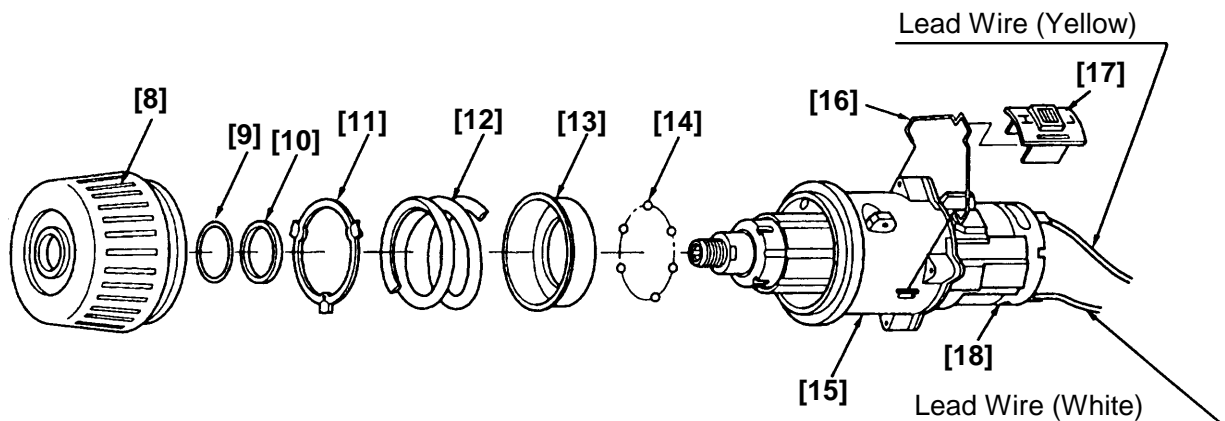

Fig. 11
(a) In order, remove the Cap **[8]**, O-Ring **[9]**, O-ring Plate **[10]**, Clutch Plate **[11]**, Spring **[12]**, Spring Holder **[13]** and Steel Balls **[14]**. Exercise care not to lose the six Steel Balls **[14]**. (See Fig.11.)
- (a) Mount the Shift Arm [16] and Shift Knob [17] on to the assembled parts. (See Fig.11.)
- (b) Fit the O-Ring [9] and O-Ring Plate [10] into the parts ass'y and install the Cap [8] through the six Steel Balls [14]. (See Fig.11.)
When installing the Cap [8], make sure that the numeral "1" on the Cap [8] and one of the projections at Clutch Plate [11] are generally aligned with the yellow internal wire soldered to the Motor [18]. Then fit the projection at Cap [8] into the recess on Spindle Gear Ass'y [15]. (See Figs.11. and 12.)